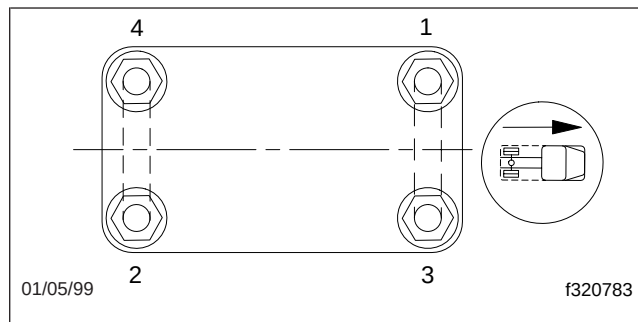

Fig. 12, Tightening Pattern for U-Bolt High Nuts
* Tighten in a diagonal pattern as shown in Fig. 12.